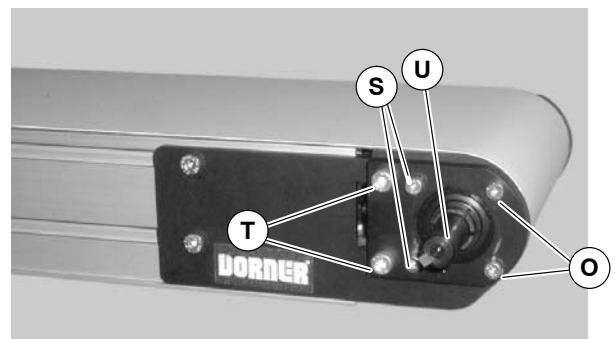

Figure 5
3. Locate drive output shaft (U of Figure 5). Remove two (2) M8 screws (T) and four (4) M6 screws (S) and discard.